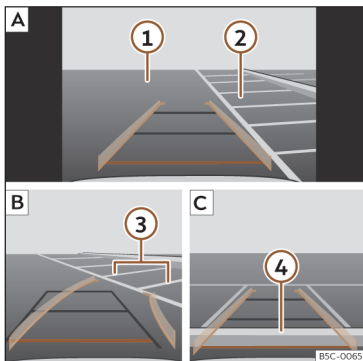

Fig. 149 Display on the infotainment system screen: parking with the reverse assistant.
Key to >>> **Fig. 149:**
- Stop the vehicle in front of the parking space >>> **Fig. 149 2 A**.